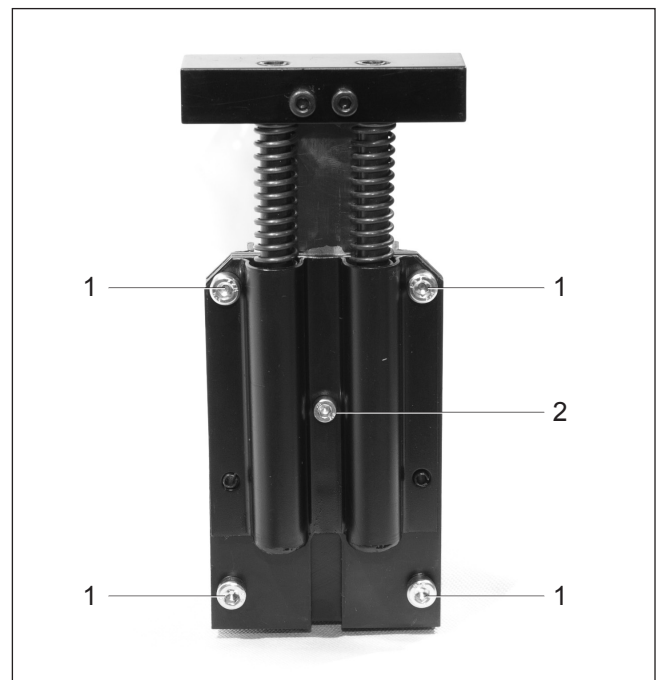

Fig. 11
- Slightly loosen the five screws (Fig. 11/1 and 11/2) that hold the front plate one turn.